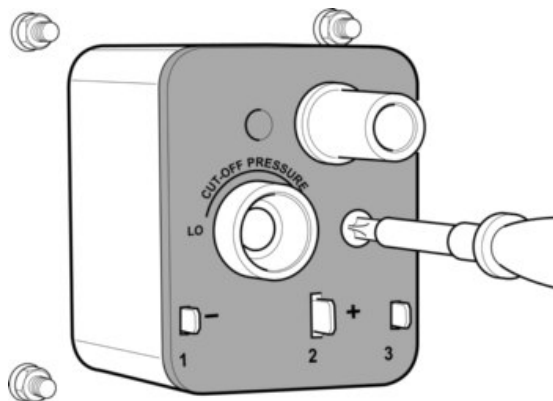

Fig. 3 Preparing Watermaster® socket for Connecting Watermaster® IC and Removing the Securing Screw
| Fig. 3 | Preparing Watermaster® Socket For Connecting Watermaster® IC |
Step 4 - Remove securing screw (see Fig. 3)